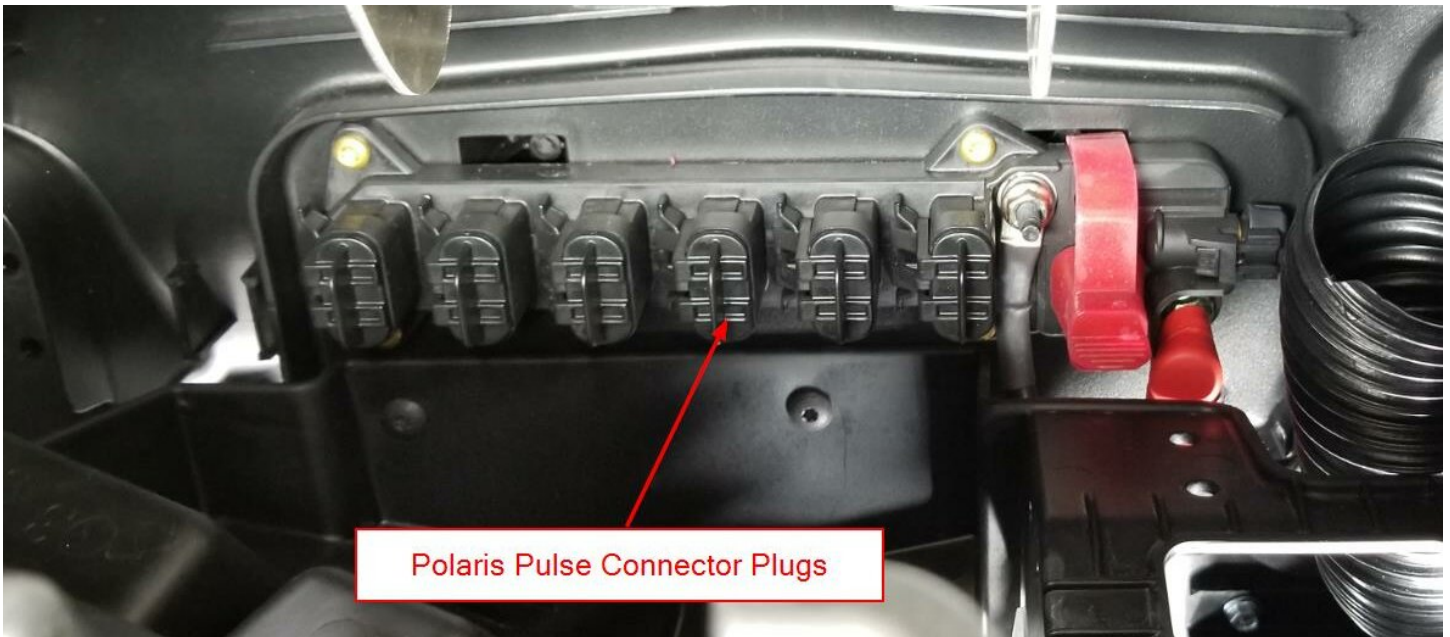

Figure 13
- c. Route the Blue and Black wires up to the center storage cubby opening near the Polaris Pulse Connector System shown in Figure 13.